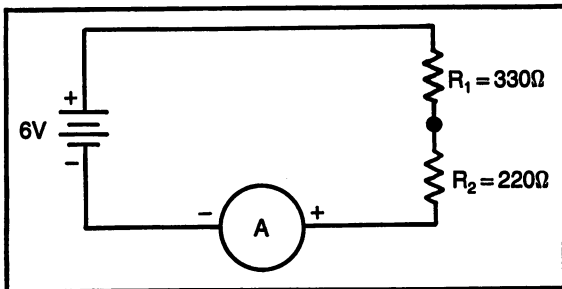
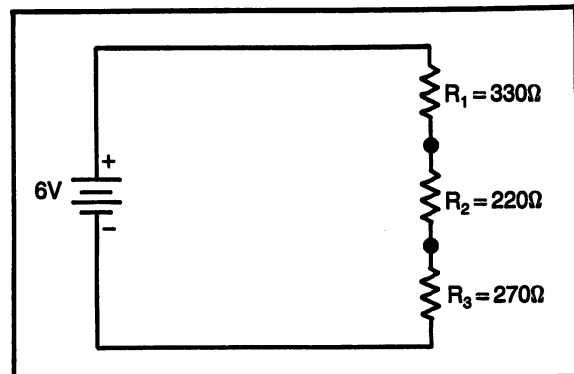

Fig. 9-17. Ammeter to measure total current.
Fig. 9-20. Three resistors connected in series.
- (7) Compare the voltage readings of steps 5 and 6. It is normal for there to be a slight difference. Explain what causes this difference and how much is considered within acceptable tolerance.
- (8) Use Fig. 9-17 as a sample to measure current flow in the circuit. An ammeter is connected in series, therefore, it is necessary to place the meter directly in the path of current flow. Disconnect the wire from the negative side of the power supply to the resistor. Attach the negative side of the meter to the power supply and the positive side of the meter to the resistor. Remember to change the multi-meter to the current range.
- (12) The circuit that was used for steps 1 - 11 will now be expanded to have a third resistor. Refer to Fig. 9-20. Add the 270 ohm resistor in
- (13) Connect 6 volts dc to the circuit of Fig. 9-20. Calculate the circuit current, then properly connect an ammeter and measure the current flow. (Use Fig. 9-17 as a sample.)